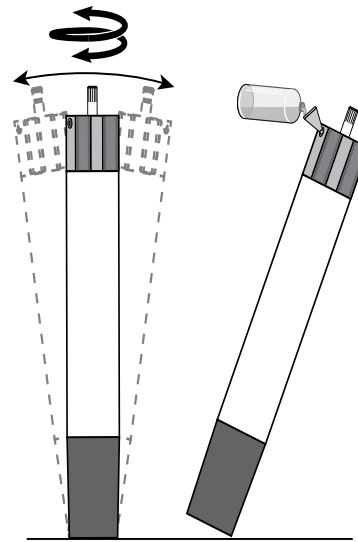

Figure 2: Rock Motor gently from side to side while turning shaft by hand (A), then fill with clean water (B). Repeat until full.
- B. Turn the motor shaft by hand while rocking the motor back and forth (see Figure 2).